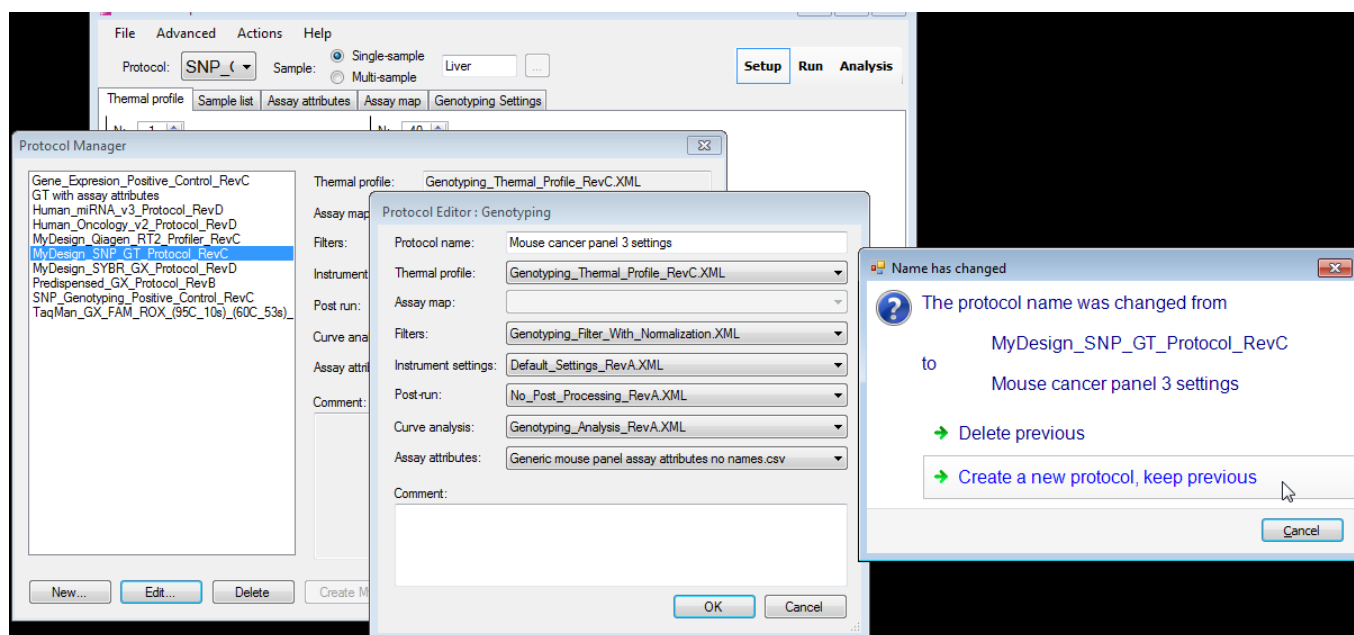

Figure 61. Renaming and saving the new genotyping protocol.
- e. Click [OK]. This will open a *Name has changed* window. We recommend that you choose to **Create a new protocol, keep previous** (Figure 61). This preserves a copy of the default MyDesign SNP genotyping profile on your computer. Close the *Protocol Manager* window by clicking the red [X] icon in the upper-right corner.